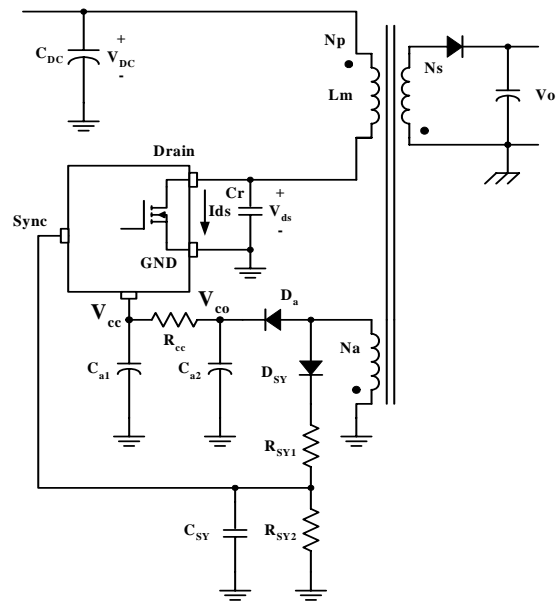
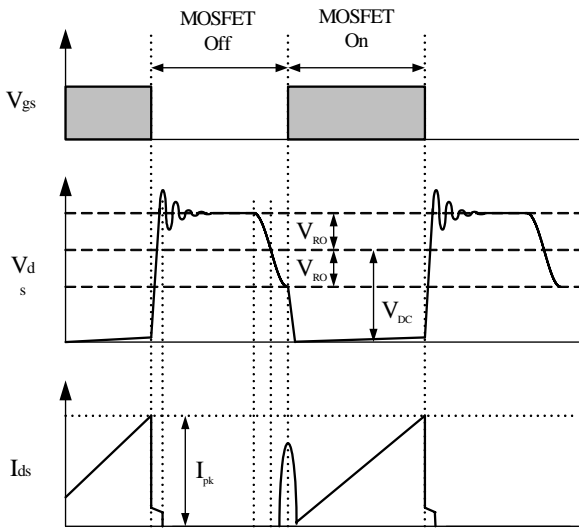
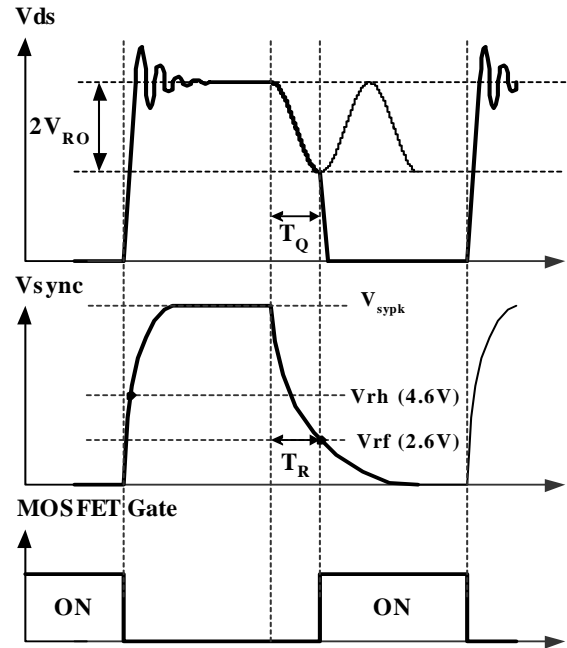

Figure 6. Synchronization Circuit
Figure 7. Quasi-resonant Operation Waveforms
Figure 8. Normal Quasi-Resonant Operation Waveforms
2. **Synchronization:** The FSCQ-Series employs a quasi-resonant switching technique to minimize the switching noise and loss. In this technique, a capacitor (Cr) is added between the MOSFET drain and the source as shown in Figure 6. The basic waveforms of the quasi-resonant converter are shown in Figure 7. The external capacitor lowers the rising slope of the drain voltage to reduce the EMI caused when the MOSFET turns off. To minimize the MOSFET's switching loss, the MOSFET should be turned on when the drain voltage reaches its minimum value as shown in Figure 7.
The minimum drain voltage is indirectly detected by monitoring the Vcc winding voltage as shown in Figure 6 and 8. Choose voltage dividers,  $R_{SY1}$  and  $R_{SY2}$ , so that the peak voltage of the sync signal ( $V_{sypk}$ ) is lower than the OVP voltage (12V) to avoid triggering OVP in normal operation. It is typical to set  $V_{sypk}$  to be lower than OVP voltage by 3-4 V. To detect the optimum time to turn on MOSFET, the sync capacitor ( $C_{SY}$ ) should be determined so that  $T_R$  is the same with  $T_Q$  as shown in Figure 8. The  $T_R$  and  $T_Q$  are given as, respectively